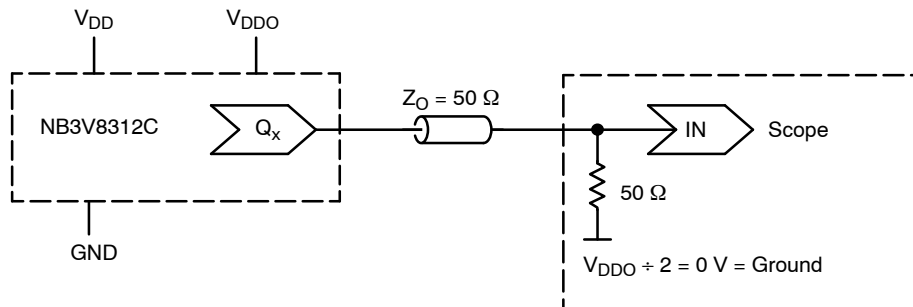

Figure 7. Typical Device Evaluation and Termination Setup – See Table 8
6. Outputs terminated $50\ \Omega$ to $V_{DDO}/2$ unless otherwise specified. See Figure 7.
7. Outputs loaded with $50\ \Omega$ to $V_{DDO}/2$; see Figure 7. CLOCK input with 50% duty cycle; minimum input amplitude = 1.2 V at $V_{DD} = 3.3$ V, 1.0 V at $V_{DD} = 2.5$ V, $V_{DD}/2$ at $V_{DD} = 1.8$ V.